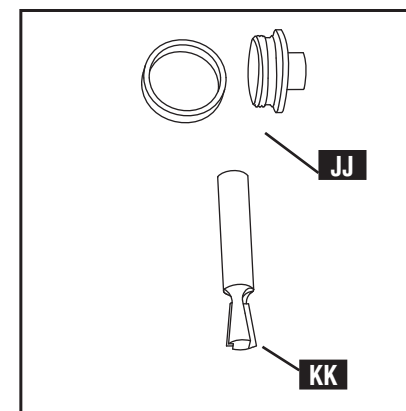

Fig. C17
Your choice of template guide (JJ) Fig. C17 and router bit (KK) is determined by several factors, such as the kind of joint you are making, the characteristics of that joint or the thickness of your workpiece. To decide which bit and guide to use, consult the Dovetail Setup Guide, the template labels or the manual.